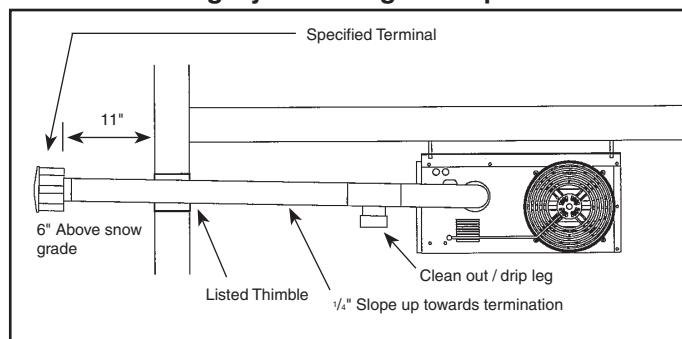

Figure 7.2
- When vented horizontally, maintain a 1/4" per foot rise away from the heater. Place a drain tee and clean out near the unit. See Figure 7.1. Where local authorities have jurisdiction, a 1/4" per foot downward slope is acceptable. Use a drain tee with a clean out near the exit of the vent, see Figure 7.2, or allow the condensate to drip out the end. See Figure 7.3.